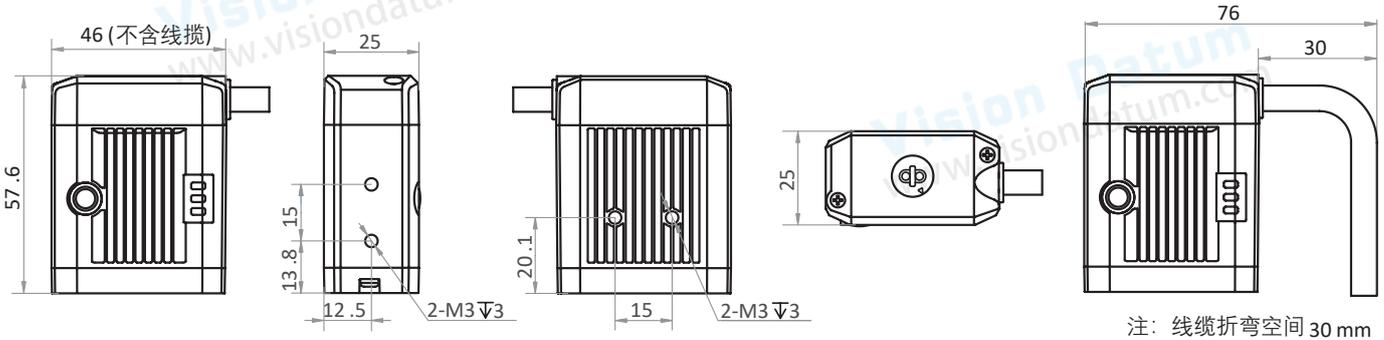

Fig. 1-1: 46 × 57.6 × 25 mm Mechanical Dimensions (in mm) of the Smart Cameras with M12-Monut housing (The installation uses M3 screws).
■ Equipment shown in Fig. 1-1
The open lines of the supplied 17-pin cable cannot be wired with the Fig.1-1 device.